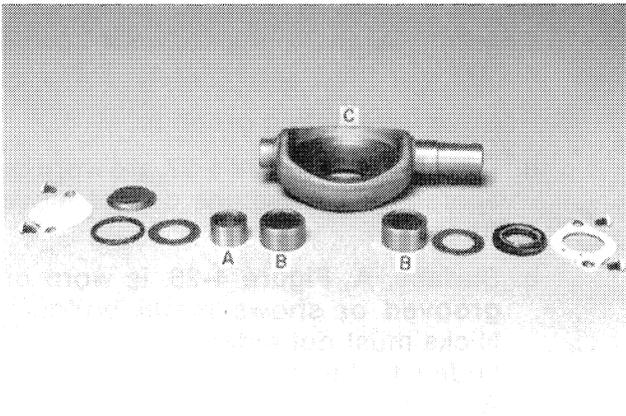

FIGURE 4-23
- e. Remove bearing race, A, and bearings, B, Figure 4-23. These can be
- f. Remove cam plate, C, Figure 4-23, by cocking the cam plate and sliding the short side of the cam plate out of the pump housing first. Figure 4-23 shows all the parts used on the cam plate.